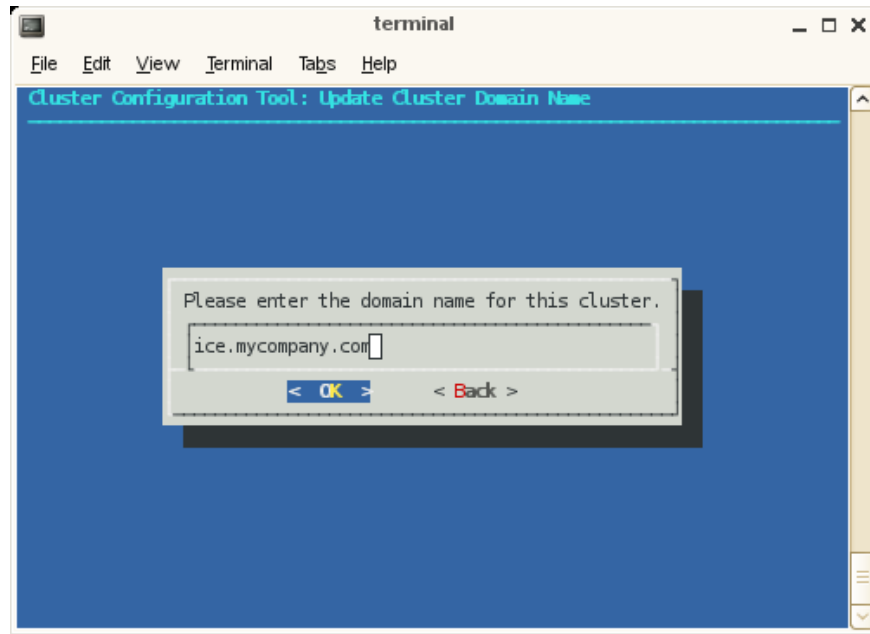

Figure 2-21 Update Cluster Domain Name Screen
12. Enter the domain name for your Altix ICE system, as shown in Figure 2-21 on page 57. Click **OK** to continue (this will be a subdomain to your house network, by default).